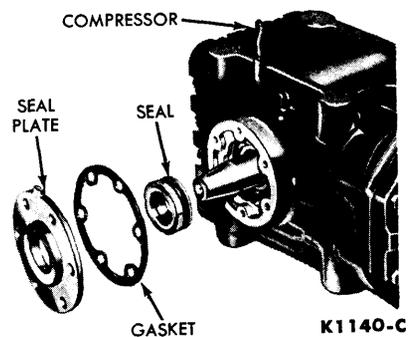

FIG. 27—York Crankshaft Seal Assembly
3. Remove the carbon seal ring and seal housing assembly from the crankshaft. A disassembled view of the crankshaft seal assembly is shown in Figs. 27 and 28.